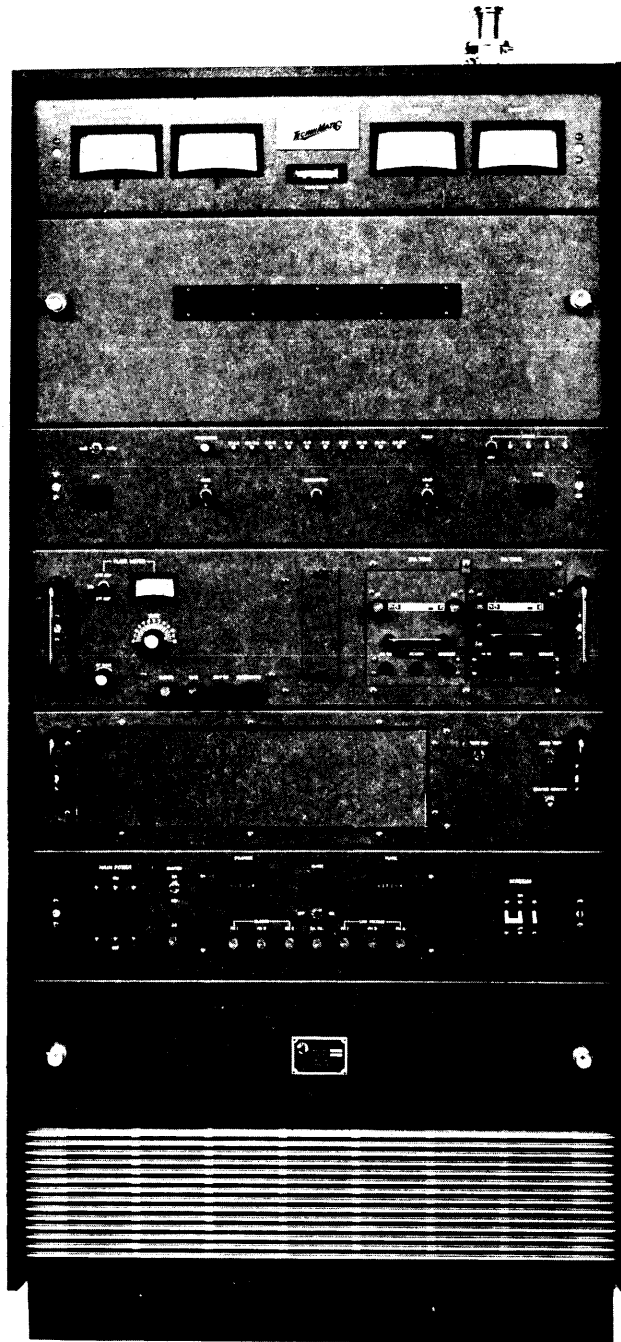

Figure 1-1. Linear Power Amplifier, Model HFLA-10K
a. GENERAL. As shown in figure 1-1, the unit consists of a single frame, housing all the components of the transmitter. Primary power connections are made through the access hole on the base assembly. External exciter transmitter control connections are made to the exciter remote assembly. Transmitter r-f power is routed through a directional coupler mounted in the opening located on the top of the transmitter. The transmitter